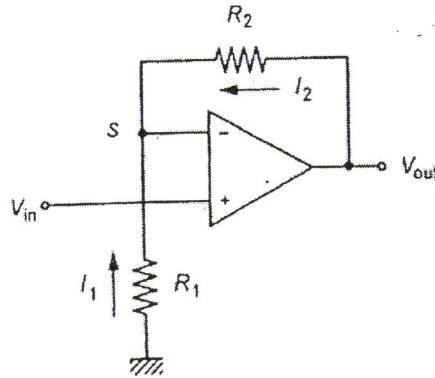

Figure 4: Non Inverting Amplifier
- (d) **Figure 4** shows a non inverting amplifier. Given input voltage (V_{in}) = 5V and output voltage (V_{out}) = 15V. Calculate the resistance value of **R1** if $R_2 = 375\text{k}\Omega$ (4 marks)